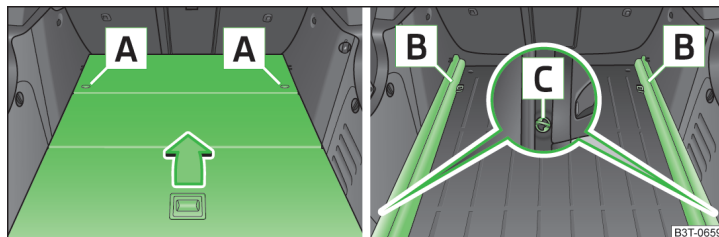

Fig. 111 Boot: Remove variable loading floor/remove carrier rails
- Unlock the variable loading floor by turning the safety eyes **A** » Fig. 111 to the left by around 90°.